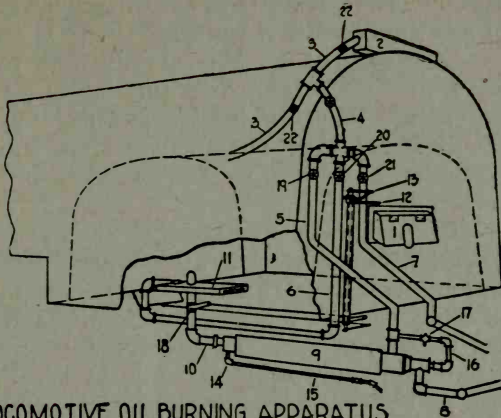

FIG. 14. LOCOMOTIVE OIL BURNING APPARATUS
A.—Illustration, Fig. 14, No. 2, shows turret on boiler head, and No. 3, blower pipe leading from same. No. 4, oil burning pipe connected with blower pipe in such manner that it can be operated with or without